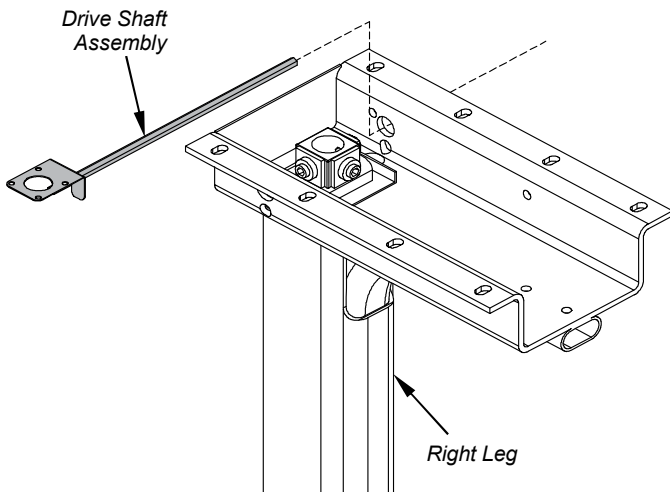

Figure 1A
- Orient the right leg as shown in **Figure 1A**.